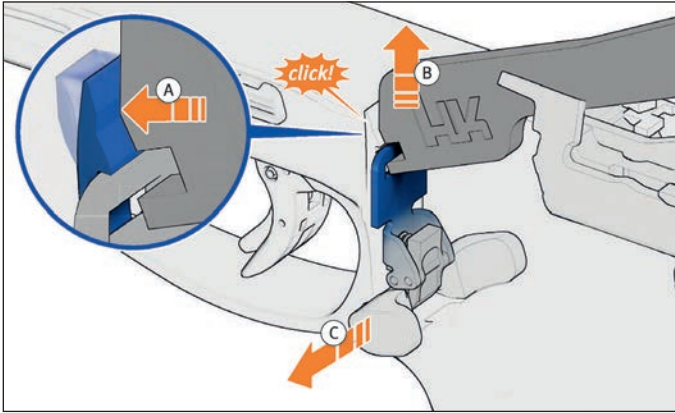

Figure 46 – Remove push button
1. With the pistol disassembled and the slide removed, push the latching clip in the pistol grip frame forward with disassembly tool (Figure 46).